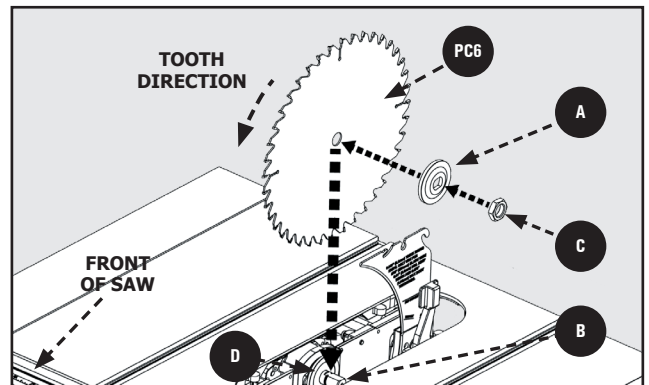

Figure 15
6. Place Blade **PC6** on the Arbor Shaft **B** with the Teeth on the Blade pointing toward the front of the Saw. Place Outer Blade Washer **A** on Arbor Shaft **B** with the large side of the Washer against the Blade, then secure Blade Assembly with Nut **C**. See Figure 15.